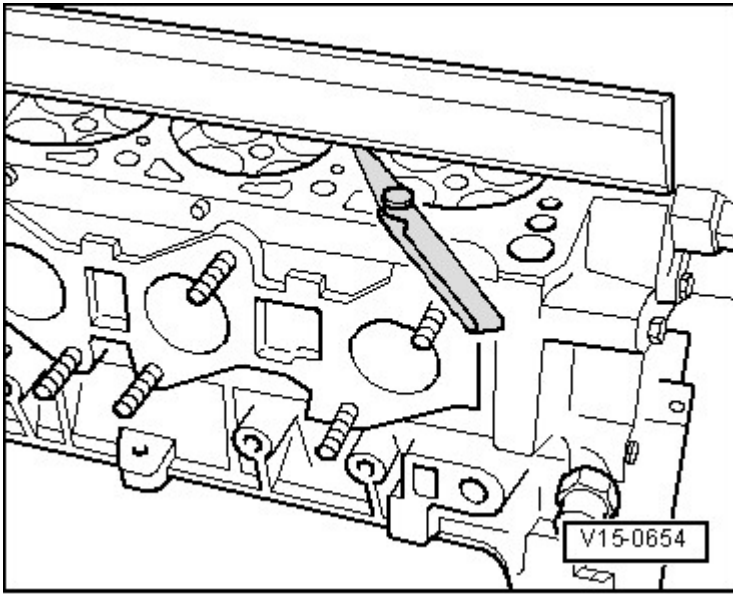

Fig. 15: Checking Cylinder Head For Distortion
- Check for distortion, refer to **Fig. 15**